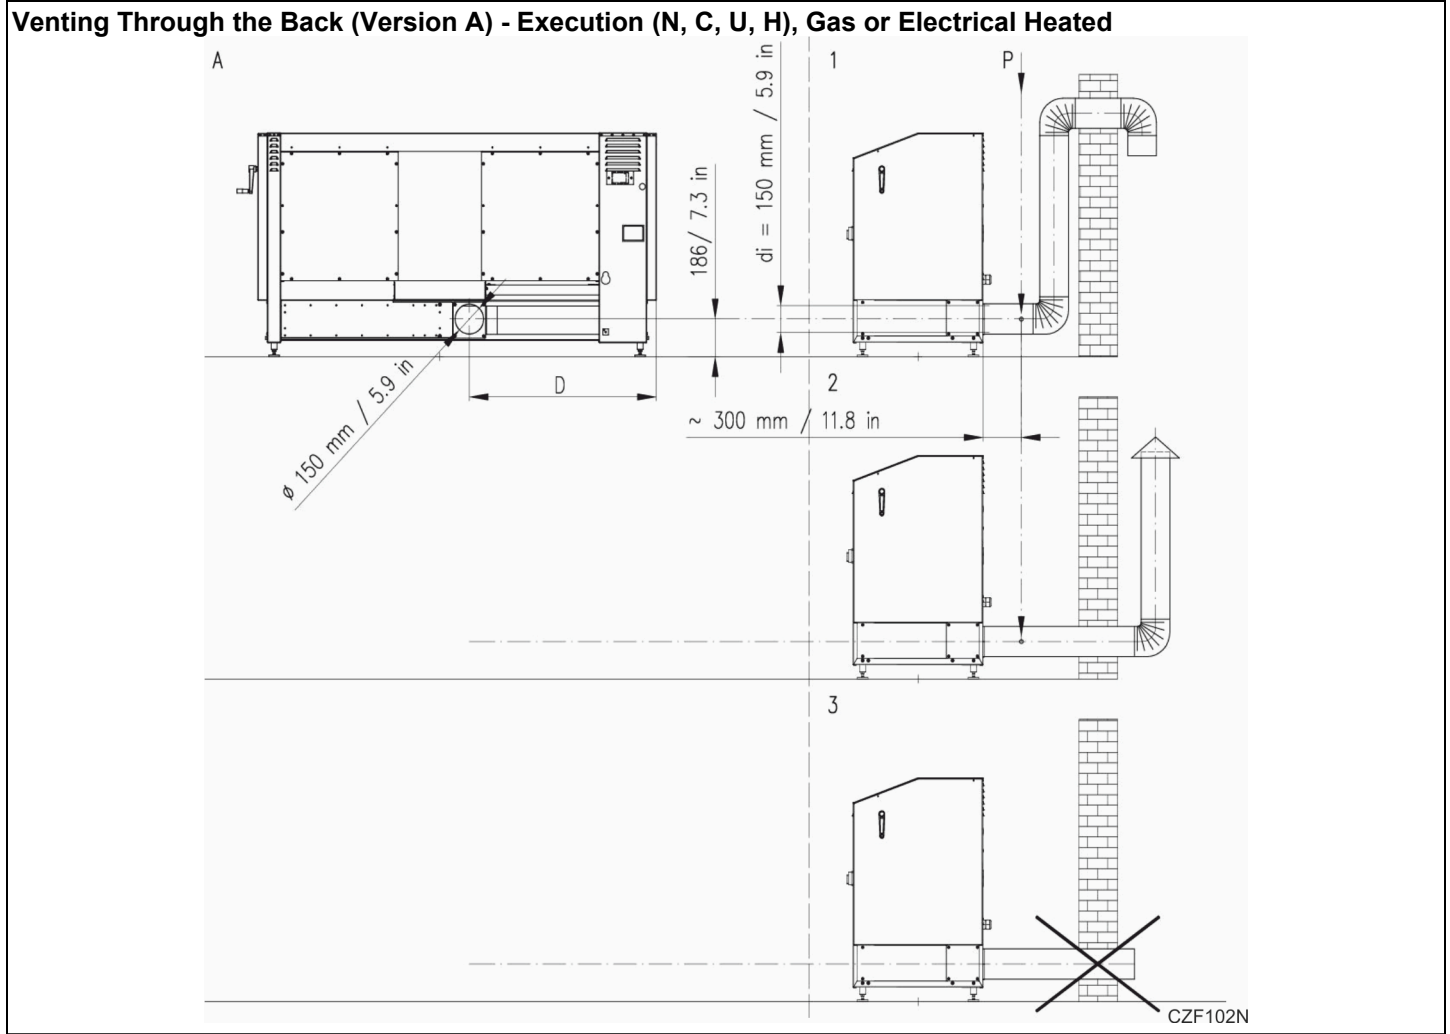
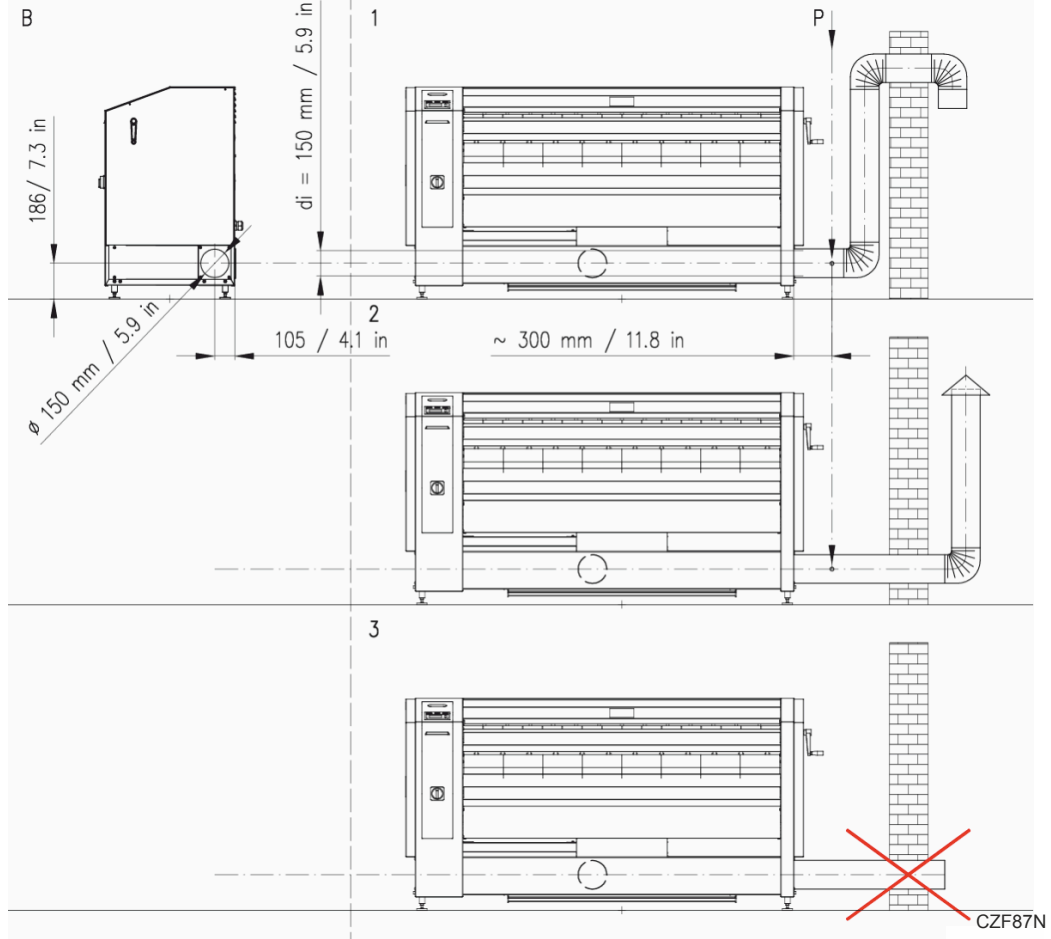
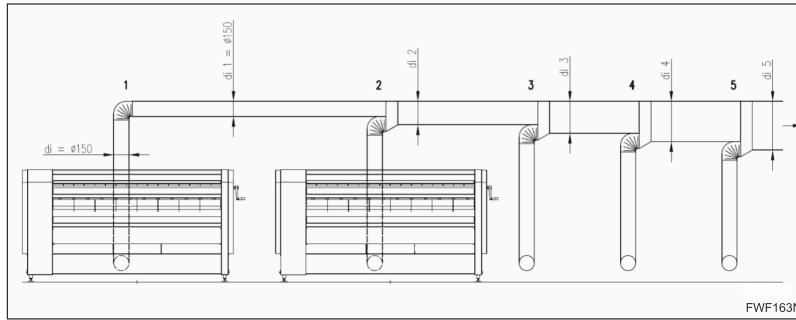

Figure 11
Figure 12
Figure 13
Parameters to Figure 11 and Figure 12
- A – steam exhaust backwards: *Figure 11*
- B – steam exhaust to the right side: *Figure 12*
- The dimension and other parameters that concern the installation of the exhaust system are shown in the figures above, in *Figure 11*, *Figure 12*, *Figure 13* and in *Table 10*, *Table 4*, *Table 9*.
- The steam exhaust must be led separately from any other piping and it must be installed according to *Figure 11* or *Figure 12* by the shortest way outside the building.
Parameters to Figure 13